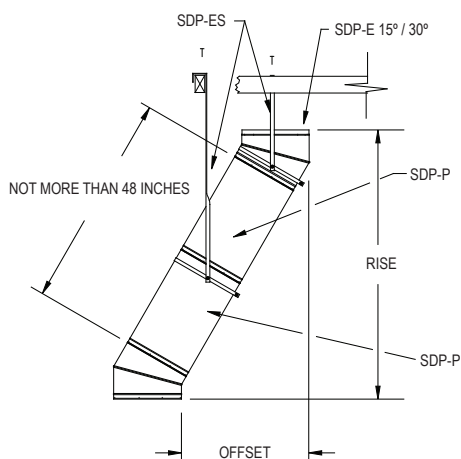

Figure 17
1. **Attach Elbows:** Attach Elbows to Chimney Sections or other Elbows by twisting clockwise until they lock firmly. Attach one Elbow to the Chimney Section below, and align it for the offset. If the needed direction of the Elbow is different than the fully locked position, the Elbow can be rotated to desired direction and can be secured to pipe section with a minimum of (4) sheet metal screws. Do not penetrate the inner wall. Refer to Table 3 to determine the required offset length and attach an appropriate length (or lengths) of Chimney Section(s) above the Elbow. Do not exceed the maximum lengths between the Elbows specified in **Table 3**. Attach the second Elbow above the Chimney Section to complete the offset. (**Figure 17**).